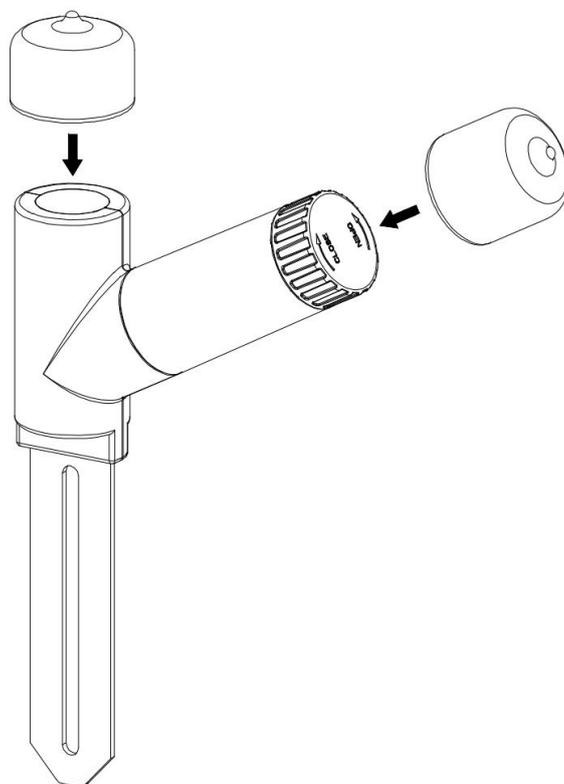

Figure 5
2. Install the long silicone cap to cover the battery compartment and the short silicone cap to cover the LED indicator, like figure 5.